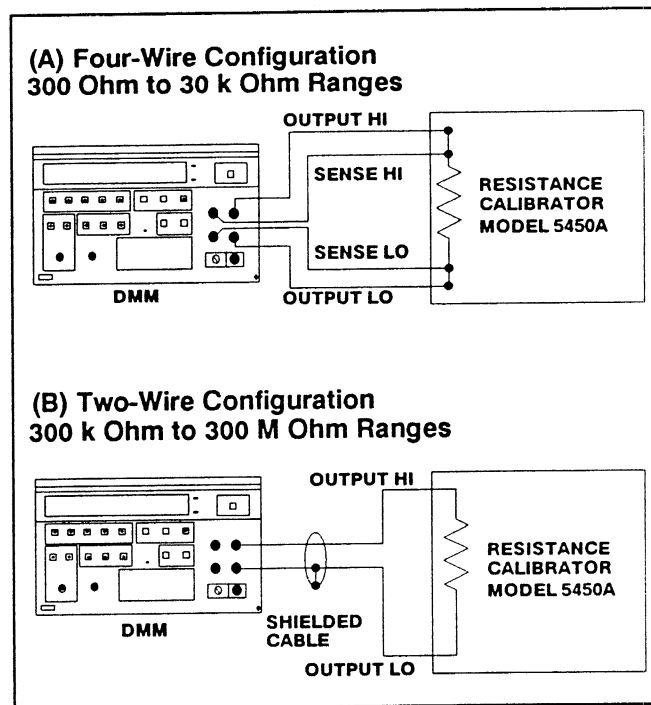

Fig. 3-2. Resistance Calibration Configuration.
- c. Connect the DMM to the resistance calibrator as shown in Fig. 3-2 (A).
- i. Repeat steps d through h for the remaining ^{ohms} ~~DCV~~ ranges using Table 3-3 and Fig. 3-2 as a guide.